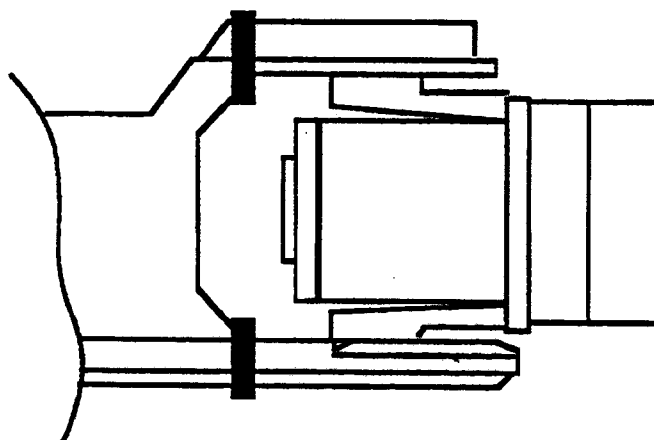

Figure 4 To prevent the wrist from rotating.
2. Attach a hoist to the wrist, so that it cannot rotate. See Figure 4.